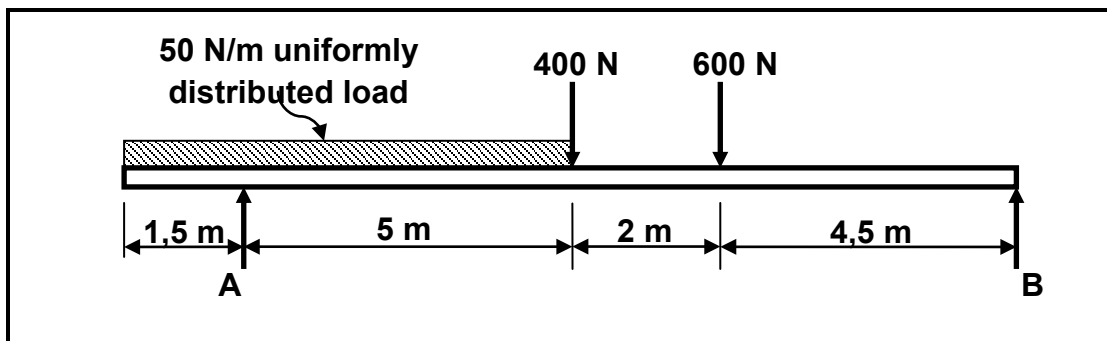

FIGURE 7.2
7.4 FIGURE 7.2 below shows a uniform beam that is supported by two vertical supports, **A** and **B**. Two vertical point loads are exerted onto the beam, as well as a uniformly distributed load of 50 N/m, over the total left half of the beam.